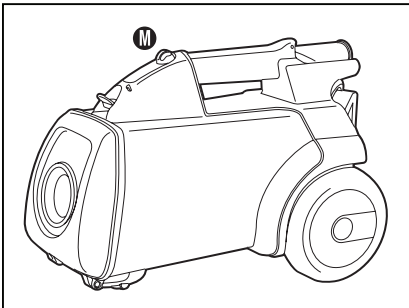

Fig. 8
Step 7: Push on/off switch **M**. Press once to turn on. Press again to turn off (Fig. 8).
Step 5: Push on/off switch **M**. Press once to turn on. Press again to turn off (Fig. 8).